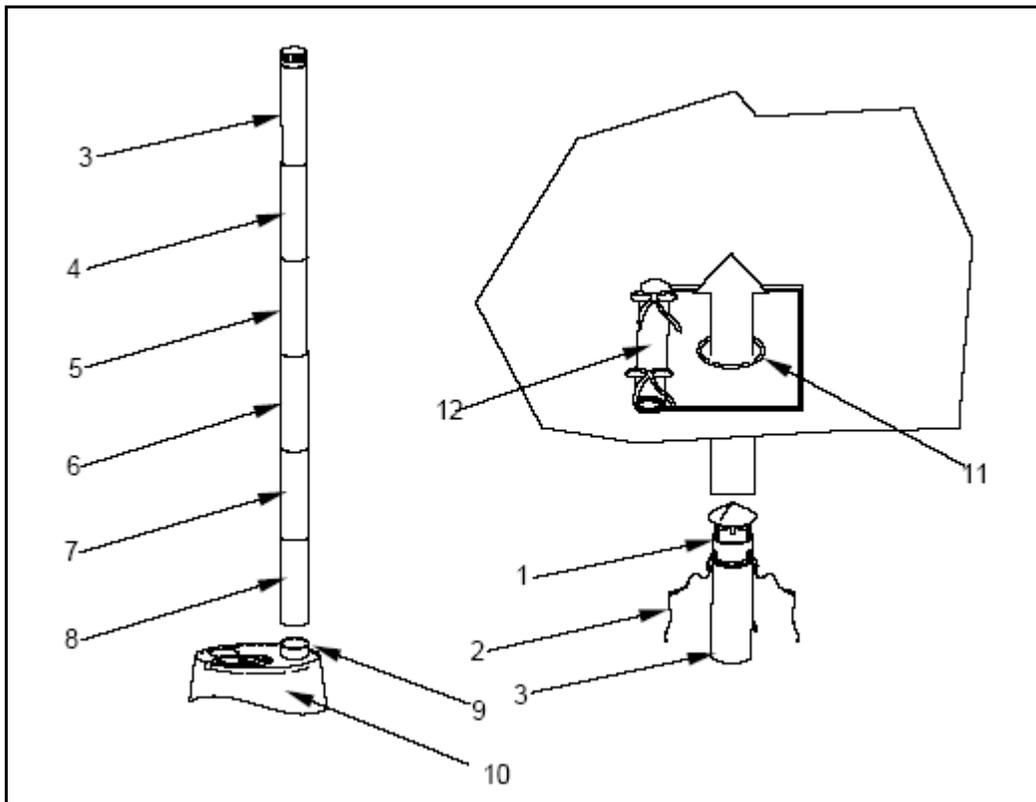

Figure 14
b. Assemble The Stack. Figure 14